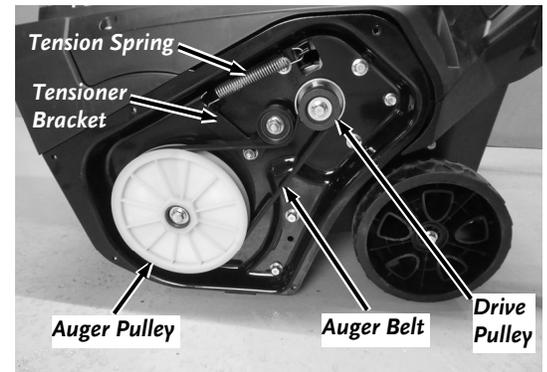

Figure 15
4. Remove the Tension Spring from the Tensioner Bracket using Needle Nose Locking Pliers (**Figure 15**).